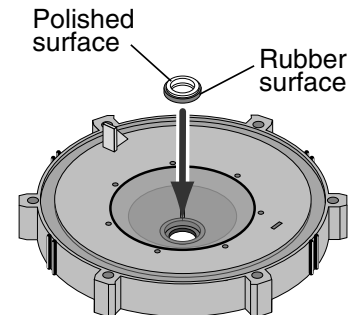

Figure 7
1. Ceramic seat must be clean and free of dirt, grease, dust, etc. Wet outer edge with small amount of liquid detergent; press ceramic seat into seal plate cavity firmly and squarely with finger pressure (see Figure 7).